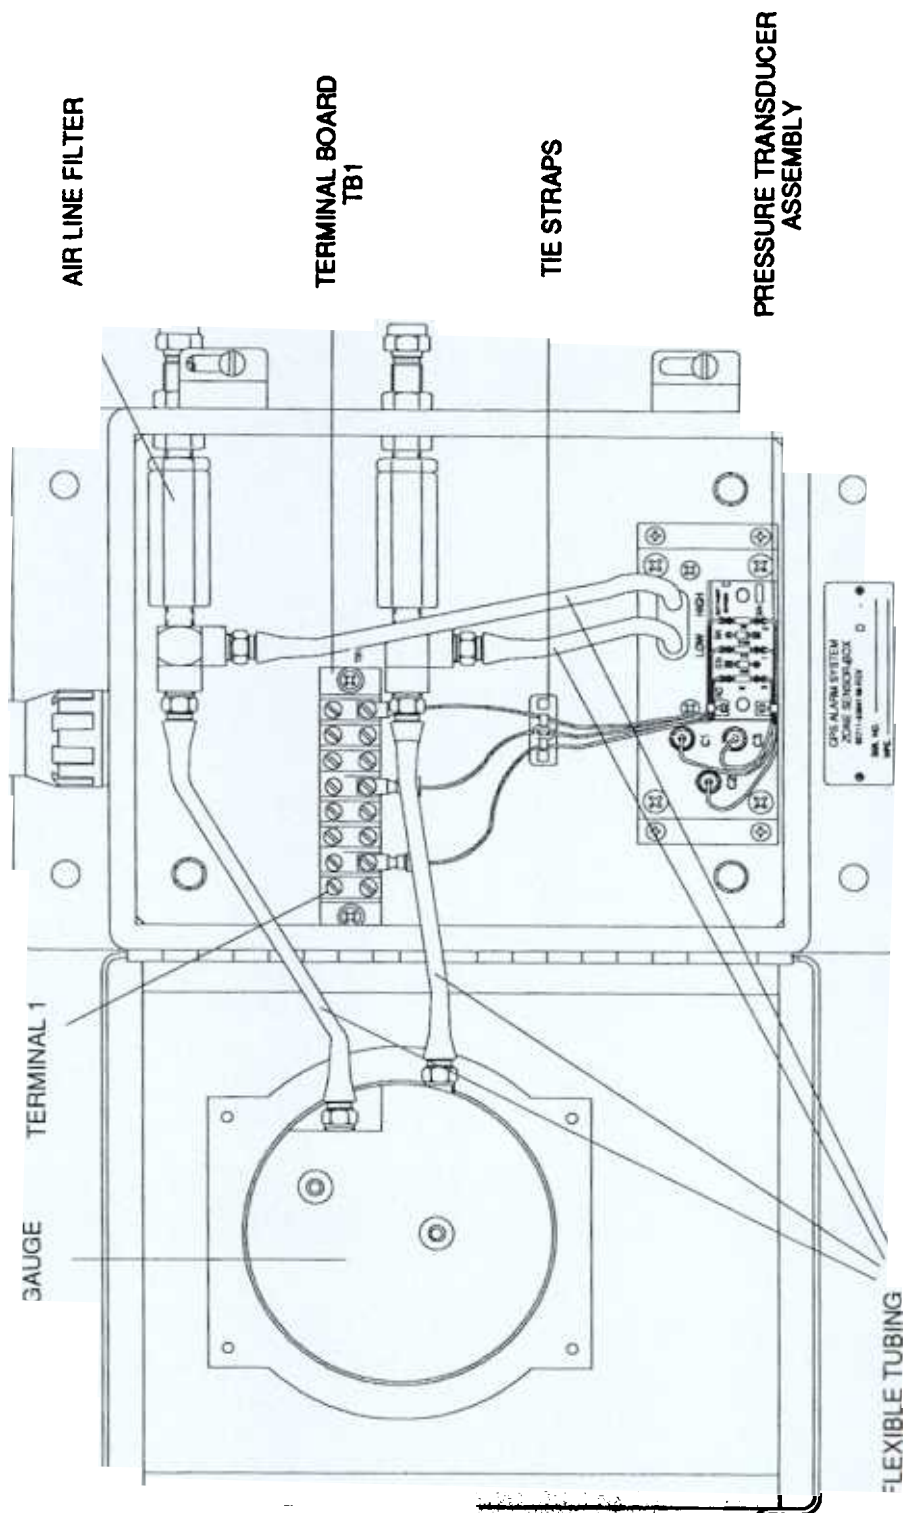
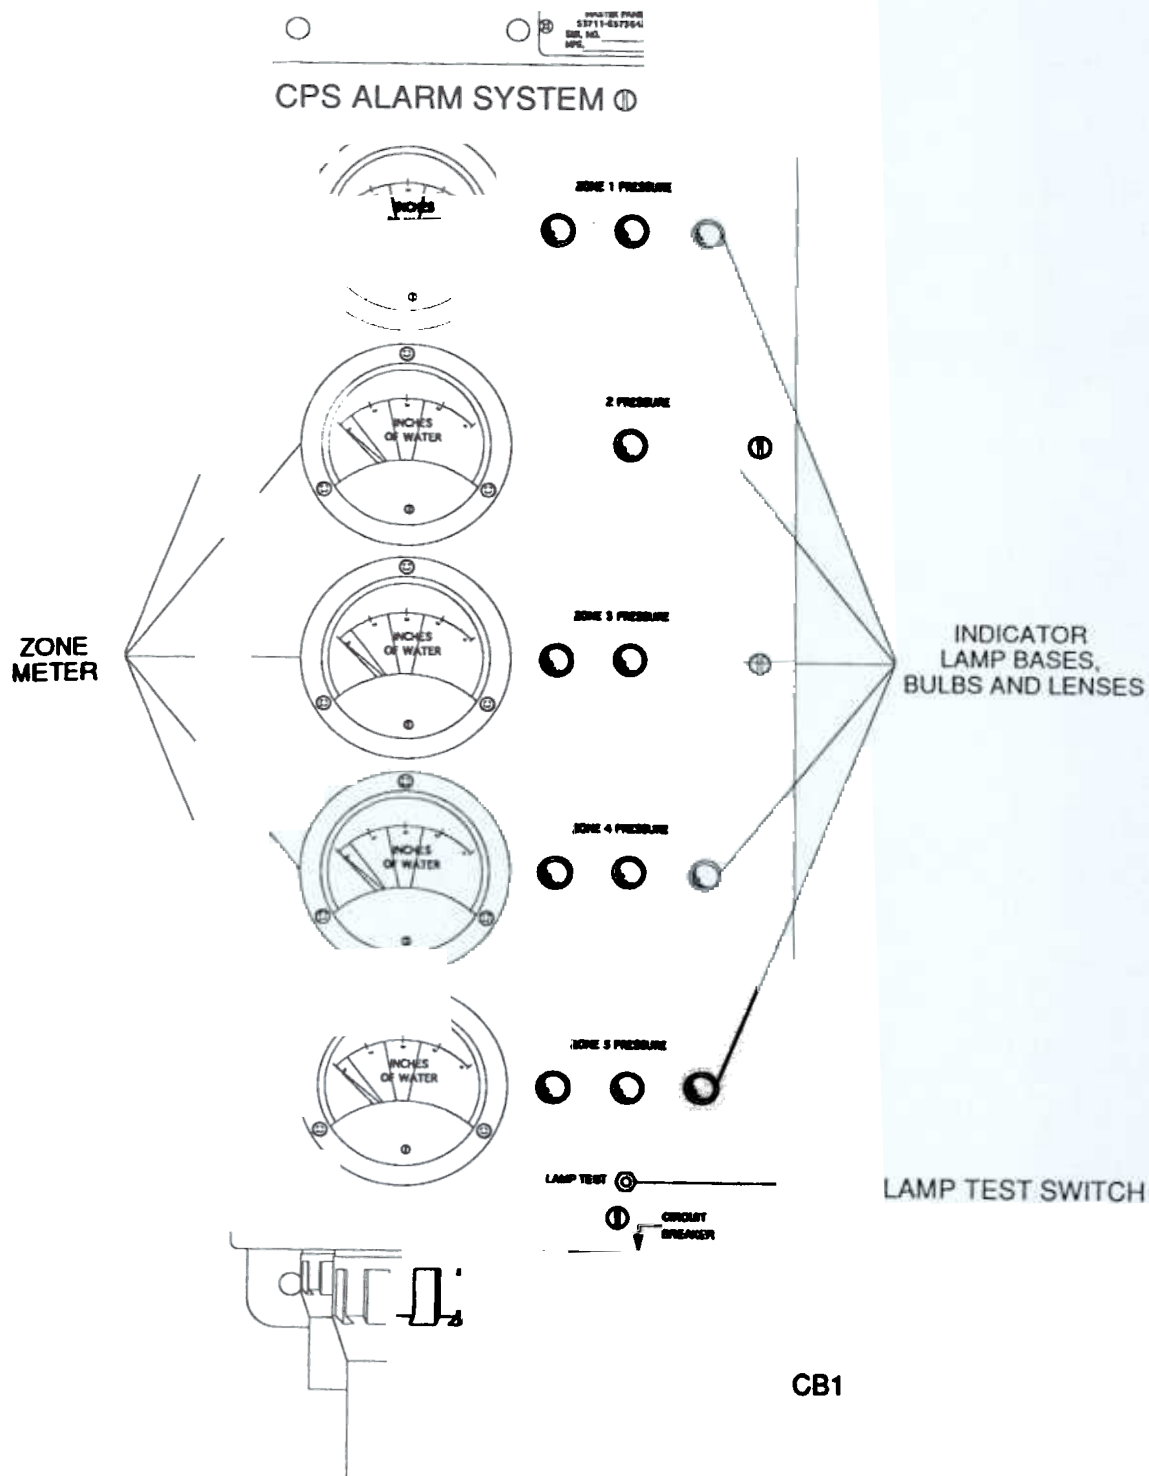
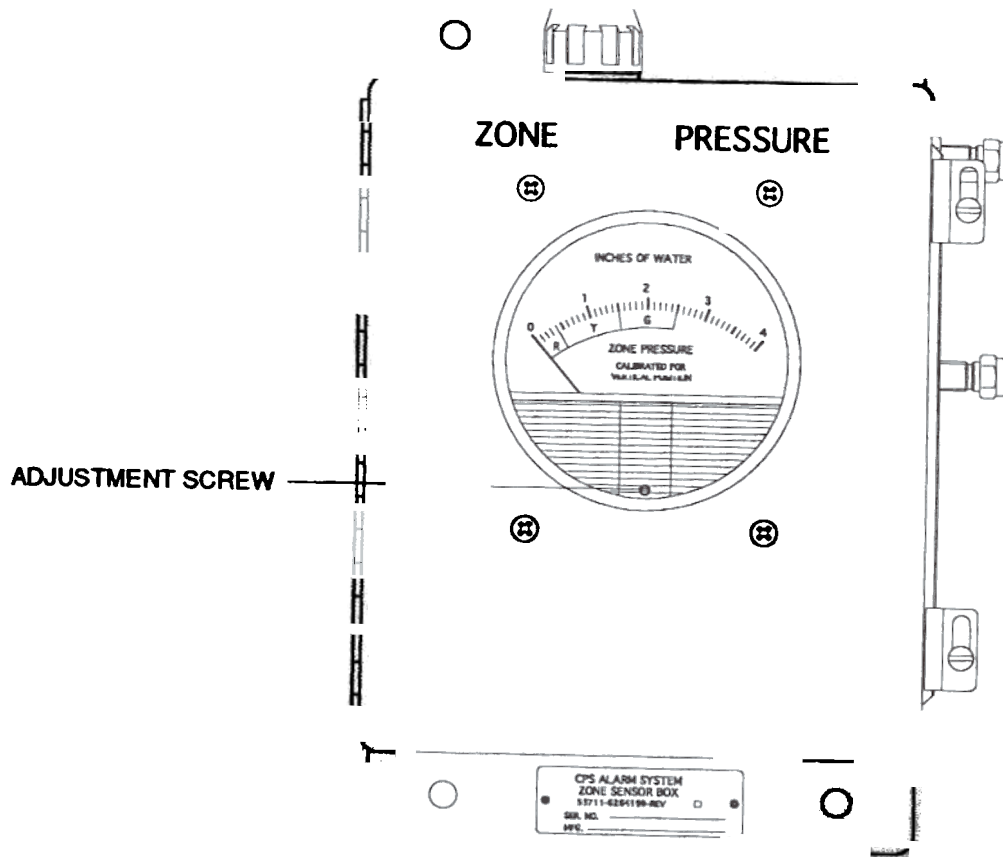

Figure 6-2. Zone Sensor Box, Door Open
Figure 6-1. Master Panel
Figure 6-3. Zone Sensor Box
- (1) Position three personnel as indicated above.
- (2) At master panel ensure that the master panel circuit breaker CB1 (figure 6-1) is pushed in (on). Press and hold the lamp test switch on the master panel (figure 6.1). All lamps on the master panel should illuminate. If they do not, refer to troubleshooting (chapter 5). Release the lamp test switch after verifying the operation of the lamps.
- (3) Open front and inner panels of the master panel.
- (4) Open front panel of the zone sensor box. Disconnect the flexible tubing from the pressure gauge and the pressure transducer assembly noting its original configuration (figure 6-2). Observe the pressure reading of pressure gauge. If the pressure gauge does not indicate 0.0 in. wg pressure, adjust to read 0.0 by turning the adjustment screw on the face plate (figure 6-3). Adjust the screw slowly in either a clockwise or counter-clockwise direction. Leave the flexible tubing disconnected.